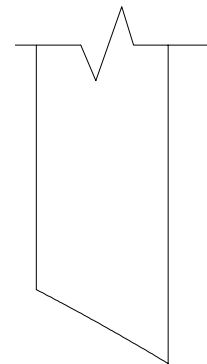

FIG. 26
D. Next manually rotate to blade #2 and grind blade #2 and continue to grind all of the blades without changing the grinding wheel setting. If you have brought all of the blades to a sharp edge, advance the grinding wheel slightly and regrind the blades, in reverse order-- starting with the highest blade number and going down. Example: #5 then 4,3,2,1. The reason for this is to get a better finish and to compensate for grinding wheel wear on the original grind. If the blade is not ground to a sharp edge, adjust the horizontal infeed wheel and grind another cycle. Grind the blades 2-3-4-5-1 as an example on the second cycle. Listed on FIG. 25 are two optional methods to stagger reel blades during grinding. The reel must be ground until you achieve a sharp edge. See FIG. 26. Again, always reverse order with a slight infeed after achieving a sharp edge.